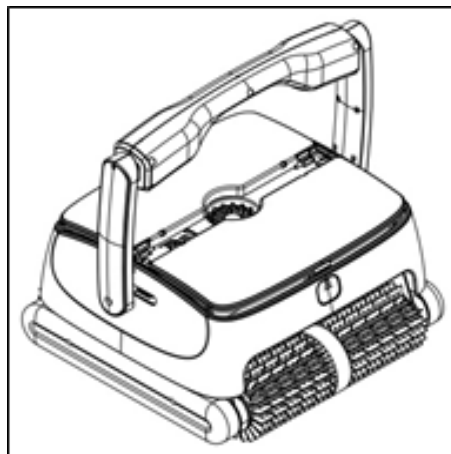

Figure 2
- The top cover will pop-up automatically (see Figure 2)